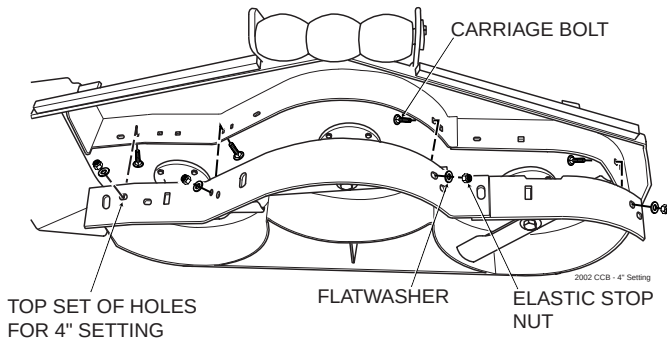

Figure 11. 4" Custom Cut Baffle Position
- C. 4" Position - baffle is installed using the top set of holes on the Custom Cut Baffle. (See Figure 11). Placing the baffle in the 4" setting will enhance fall cutting (leaf pickup) and reduce cutter deck "blowout".